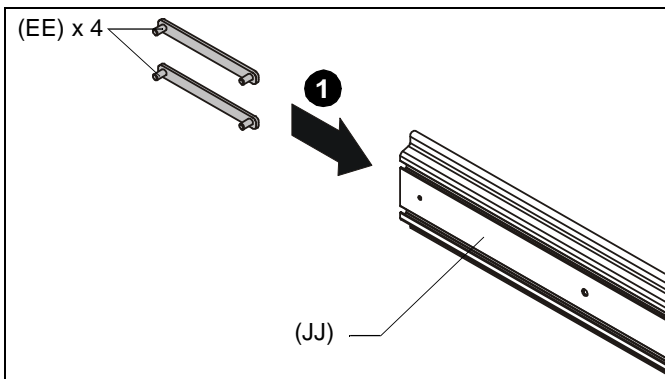

Figure 5
- Slide four T-slot studs (EE - two in top mounting rail slot and two in bottom) into end of mounting rail (JJ). (See Figure 5)